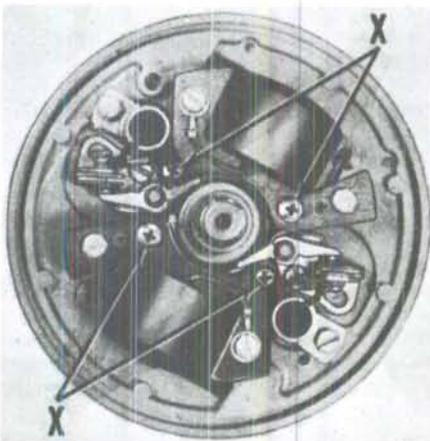

Fig. OM4-10—The magneto armature plate can be lifted off after removing the four screws (X).
Intake manifold and carburetor can be removed as an assembly. Remove flywheel, breaker point cam and key from crankshaft. After the four screws (X—Fig. OM4-10) are removed, the magneto armature plate can be lifted off. Remove support (17—Fig. OM4-11) and armature plate retainer (16). Remove cylinder head (10) and exhaust covers (19 & 21). Tap out the